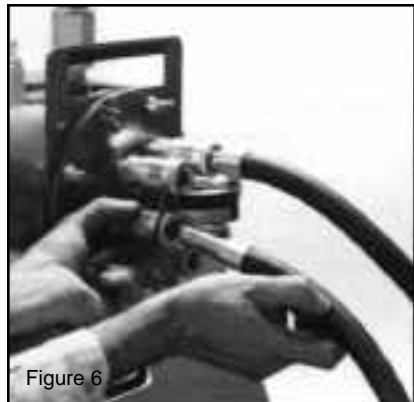

Figure 6
5. While outside of the contaminated work area, connect the respirator's MSHA/NIOSH approved air supply hose(s) to the quick-disconnect coupler(s) on the pod(s) (Figure 6).